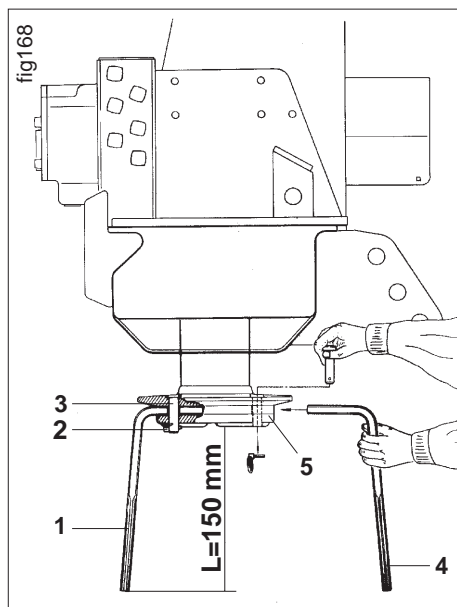

Fig. 19.6
The tines (Fig. 19.6/1) of the soil tillage implement are made of very tough hardened boron steel. The tines are subject to wear and must be replaced at the latest when they have reached a length of  $L_{min.} = 150 \text{ mm}$  (see Fig. 19.6). At great working depths, the tines must be exchanged earlier to prevent damage or wear of the tool supports (Fig. 19.6/5).
The tines (Fig. 19.6/1) are fastened in the pockets of the rotor (Fig. 19.6/5).
- Pull the linch pin (Fig. 19.6/2) out of the pin (Fig. 19.6/3).
- Knock the pin (Fig. 19.6/3) out of the rotor from below.
- Pull the tine (Fig. 19.6/1) out of the tool carrier, exchange them and fix by using (Fig. 19.6/3) and secure by using a linch pin (Fig. 19.6/2).